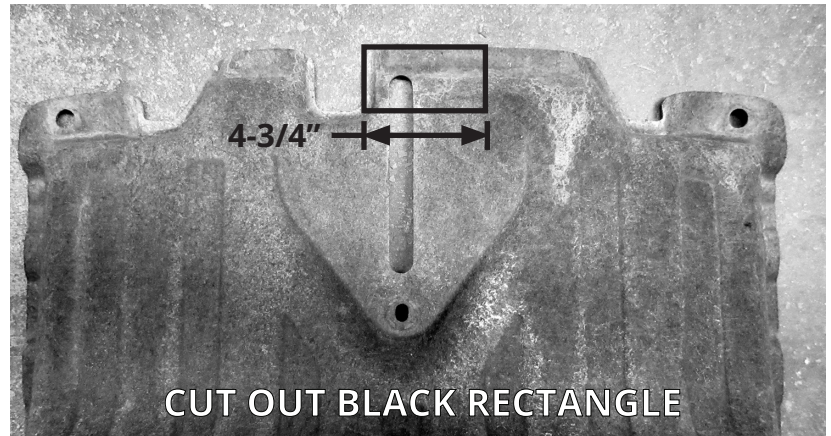

FIGURE C1: VIEW OF ROCK GUARD
11. The rock guard will need to have piece cut out of it. With a Dremel tool, use the image in Figure C1 to measure and cut the rectangle. Smooth the cuts with a file.